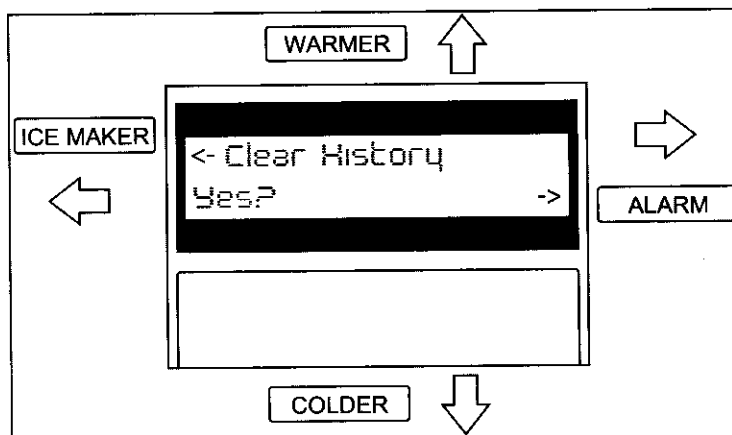

Figure 3-44. Key Strokes and Tech Display - Clearing Error History
6. Press the COLDER key once, and "Clear Error History, Yes? ->" appears (See Figure 3-44).